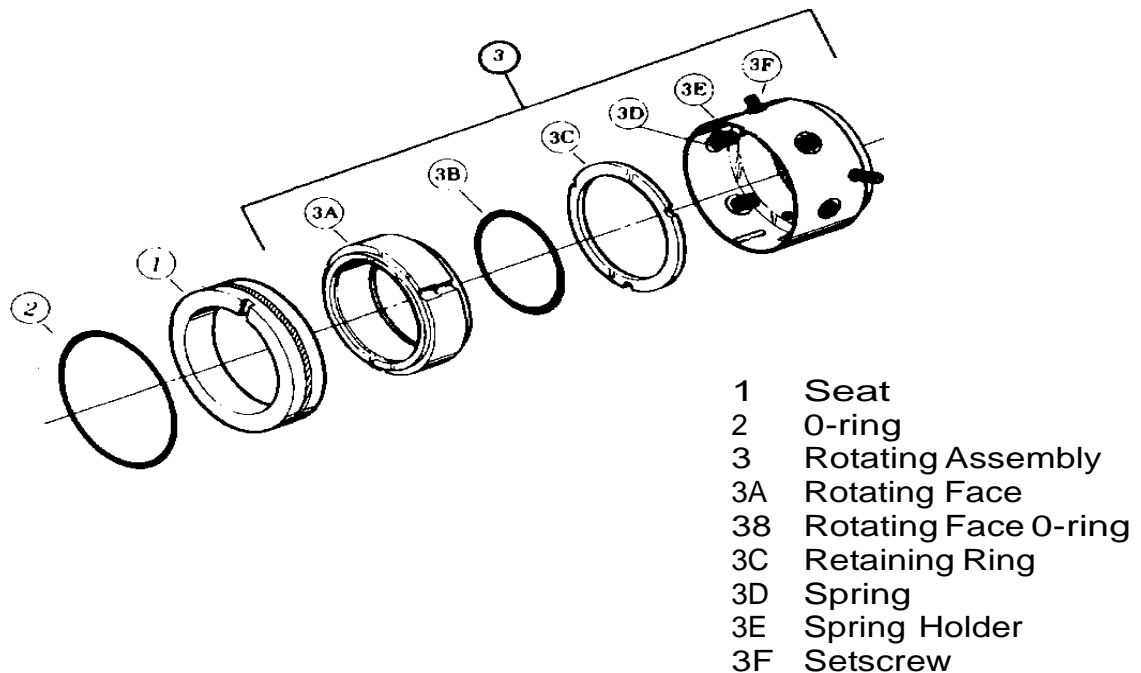

FIGURE 3. Mechanical Seal
8L-630 series pumps are equipped with a positive drive mechanical seal which can be supplied with balanced or unbalanced characteristics, depending upon suction pressure. Refer to mechanical seal drawing, figure 3, for material construction.
11. Pull power rotor (11) assembly forward from pump to expose mechanical seal (51) assembly which is mounted on shaft sleeve (16).
12. Remove inner spacer (13).
13. Remove shaft sleeve (16) from power rotor (11) shaft. Removal of shaft sleeve (16) will also remove mechanical seal (51), seat adapter subassembly (15), lip seal (6), 0-rings (38), seat retainer (5), capscrews (4), and spiral ring (14).
14. Remove spiral ring (14) from groove of shaft sleeve (16).
15. Remove seat adapter subassembly (15) with 0-rings (38) and lip seal (6), seat retainer (5), capscrews (4) and mechanical seal stationary seat (1, figure 3) with 0-ring (2, figure 3) from shaft sleeve (16). Remove capscrews (4) and seat retainer (5) from seat adapter subassembly (15). Remove mechanical seal stationary seat (1, figure 3) with 0-ring (2, figure 3) from seat adapter subassembly (15). Remove 0-rings (38) from grooves of seat adapter subassembly (15). Remove lip seal (6) from counterbore of seat adapter subassembly (15).
16. Loosen setscrews (3F, figure 3) and slide mechanical seal (51) rotating assembly (3, figure 3) from shaft sleeve (16).
17. Remove O-ring (36) from groove of power rotor (11) shaft.
18. Inspect power rotor (11) shaft and shaft sleeve (16) and remove any nicks or burrs which are present. Polish power rotor shaft to remove any rust or oxidants that may be present under shaft sleeve. The manufacturer recommends replacement of lip seals (6 and 8), ball bearings (7), mechanical seal (51), and O-rings (12, 36 and 38) when these parts are disturbed from their original installed position. All parts should be coated with light lubricating oil to assist in assembly.
19. Install O-ring (36) in groove of power rotor (11) shaft.
20. Install rotating assembly (3, figure 3) of mechanical seal (51) on shaft sleeve (16) with spring holder (3E, figure 3) positioned against shoulder of shaft sleeve (16). Tighten setscrews (3F, figure 3). Install O-ring (2, figure 3) on stationary seat (1, figure 3). Install assembled stationary seat (1, figure 3) on seat adapter subassembly, ensuring that lock pin engages slot of stationary seat. Install seat retainer (5) using capscrews (4). Tighten capscrews (4) to a torque value of 30 lbs. inch (± 2 lbs. inch). Install O-rings (38) in grooves of seat adapter subassembly (15). Install lip seal (6) in counterbore of seat adapter subassembly (15). Install assembled seat adapter subassembly (15) on shaft sleeve (16) next to installed mechanical seal rotating assembly, using caution to avoid damage to stationary seat and O-ring (1 and 2, figure 3) and O-rings (38).
21. Compress mechanical seal enough to expose spiral ring groove and install spiral ring (14) in shaft sleeve (16) to lock mechanical seal (51) assembly into place.
22. Install assembled shaft sleeve (16) on power rotor (11) shaft until it rests against balance piston (17). Use caution when installing shaft sleeve (16) to avoid damage to installed O-ring (36).
23. Install inner spacer (13) on power rotor (11) shaft.
24. Slide ball bearings (7) on power rotor (11) shaft.
25. Slide outer spacer (13) on power rotor (11) shaft.
26. Install O-ring (12) in groove of spacer (49). Install lip seal (8) on spacer (49), and slide spacer (49) on power rotor (11) shaft.
27. Slide checknut (47) on power rotor (11) shaft. Thread checknut (47) onto power rotor (11) shaft. As checknut is tightened onto power rotor, it will push ball bearings (7) and outer spacer (13) into proper position on power rotor shaft.
28. Slide lock washer (43) and bearing locknut (46) on power rotor (11) shaft.
29. Install assembled power rotor (11) into pump, ensuring that each part is centered as it enters inboard cover (40) and is properly seated.
30. Install bearing retainer (48) using bolts (9). Tighten bolts (9) to a torque value of 105lbs. ft. (\pm 10 lbs. ft.).